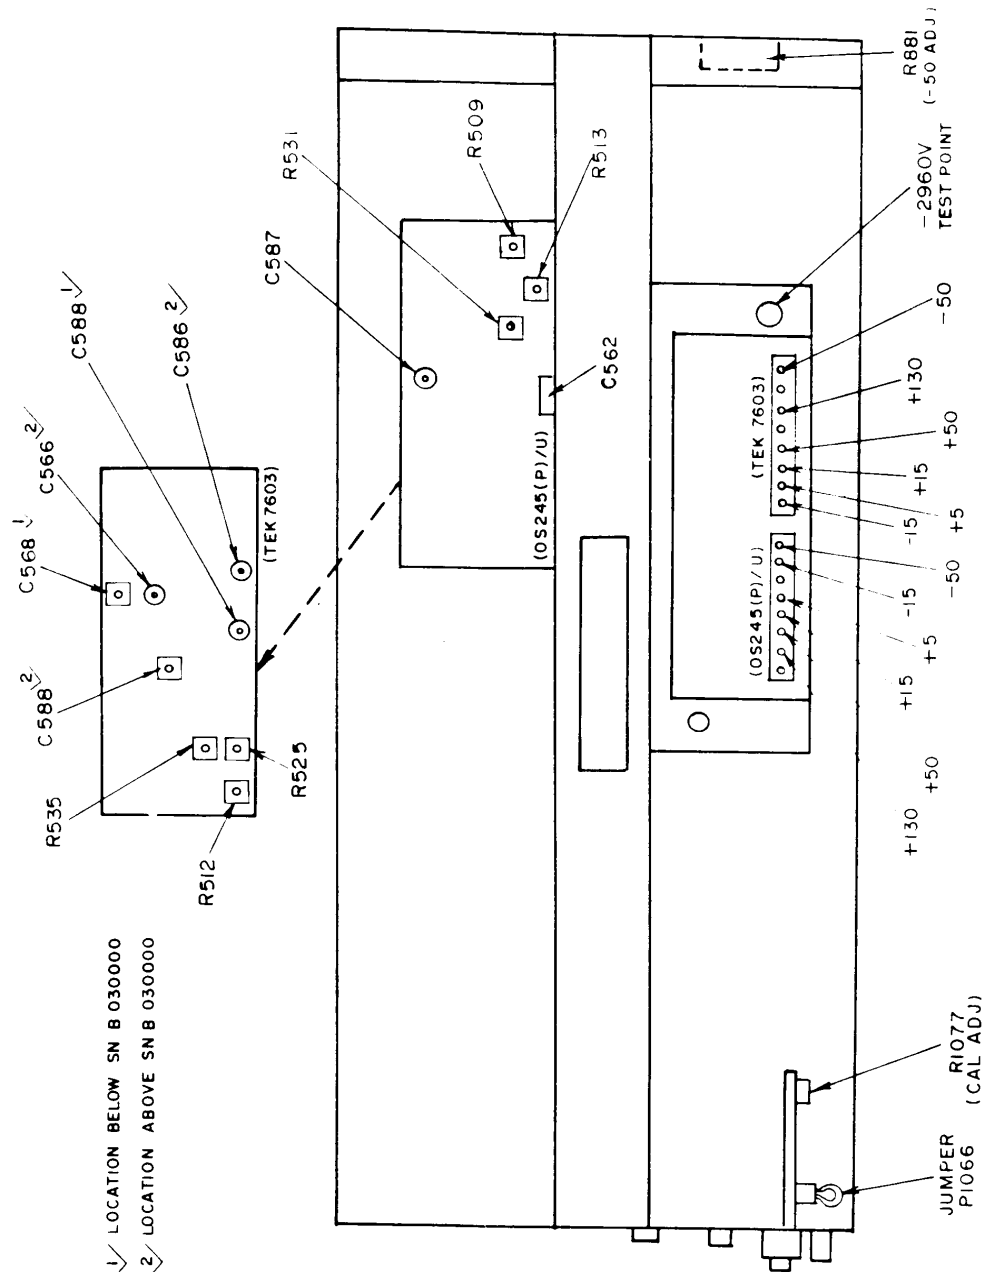

Figure 1. Test instrument – top view.
(2) Disconnect cable from oscilloscope calibrator **SOURCE/MEASURE CHAN 1** and connect to TI calibrator to **CH 1** input (for Tektronix, Type 7603 connect TI calibrator **4 V** and **GND** to **CH 1 INPUT**).
(3) Adjust R1077 (CAL ADJ) (fig. 1) for a 5-division indication on TI (R).
- (1) Adjust R509 (R512 for Tektronix 7603) (fig. 1) for display of 1 trace for each vertical graticule line (R).
(2) Adjust R513 (R525 for Tektronix 7603) (fig. 1) to midrange and adjust R531 (R535 for Tektronix 7603) (fig. 1) until vertical trace is aligned on center horizontal graticule line (R).
(3) Repeat **a**(2), (4), and (5) for best compromise.
(1) Rotate oscilloscope calibrator knob located below **EDIT FIELD** pushbutton for an **err** display of 0.0%.
(2) Adjust C562 and C587 (C588 for Tektronix 7603 S/N above B030000, C568 and C588 for S/N below B030000, while maintaining approximately equal capacitances) (fig. 1) for one marker per division (R).
(3) Rotate oscilloscope calibrator knob located below **EDIT FIELD** pushbutton for an **err** display of 0.0%.
(4) Adjust C566 and C586 (fig. 1) for S/N above B030000 for one marker per 2 divisions. Readjust C568 and C588 for S/N below B030000 for best in-tolerance compromise while setting **TIME/DIV OR DLY TIME** switches between **.05** and **.1 ms** (R).
(1) Connect digital multimeter between TP -50V test point (fig. 1) and chassis ground. If multimeter does not indicate between -49.9 and -50.1 V dc, perform **b** below.
(2) Repeat technique of (1) above for test points and indications listed in table 4. Digital multimeter will indicate within limits specified.
Test instrument test points (fig. 1) (V)	Digital multimeter indications (V Dc)
b. Adjustments. Adjust R881 – 50 ADJ (fig. 1) for digital multimeter indication of 50 V dc (R).